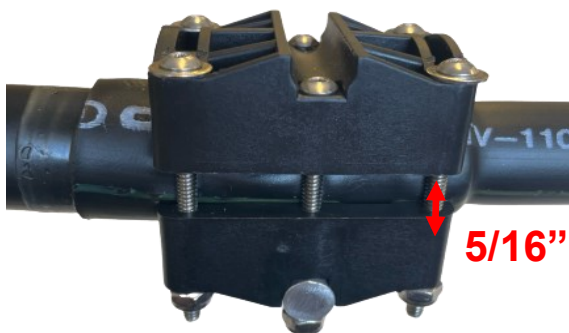

Figure 8
22. When completely tightened, **THE SWEEP COUPLER HALVES SHOULD HAVE GAP OF ABOUT 5/16" – 3/8"**, as shown in **figure 8**. This gap is not critical as the coupler is mostly to keep the spreader in place properly. **IT IS BEST TO LET THE SCREWS SIT FOR A WHILE (15-30MIN) AND TIGHTEN IN INTERVALS IN ORDER TO ALLOW THE PLASTIC CLAMP MATERIAL TO RE-FORM.** This also will reduce the chance of snapping a screw.